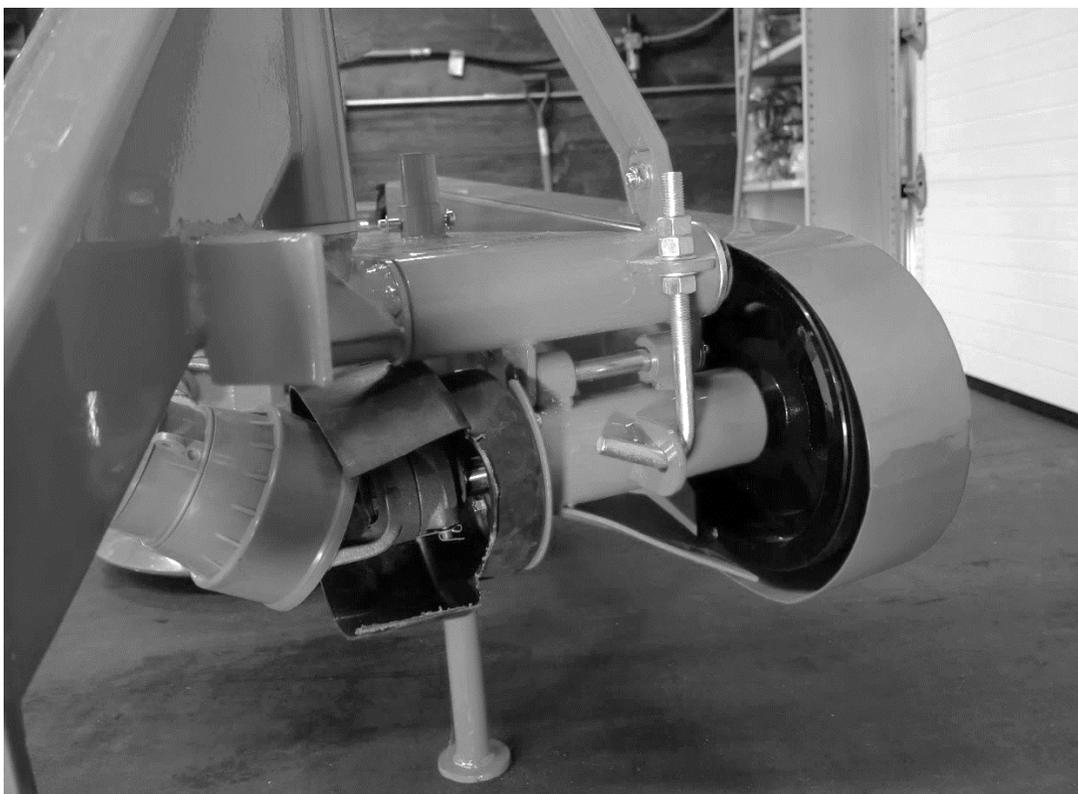

Figure 24
- 3.3.10 Install the PTO shield onto the front of the gearbox. Note the orientation of the cutout in the shield as shown in Figure 24.